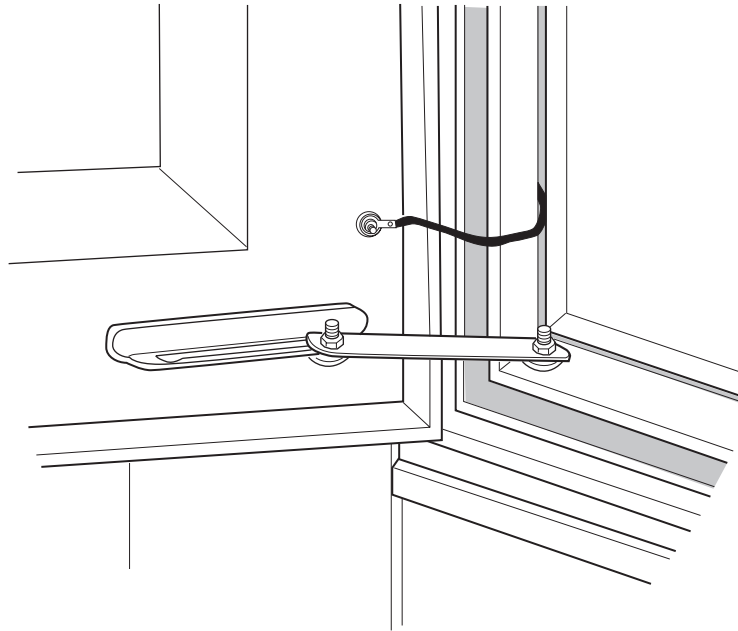

Figure 11. Wind Latch
- 3 To secure the wind latch as shown in Figure 11 on page 15, open the door until the shoulder engages the hole at the end of the slot.